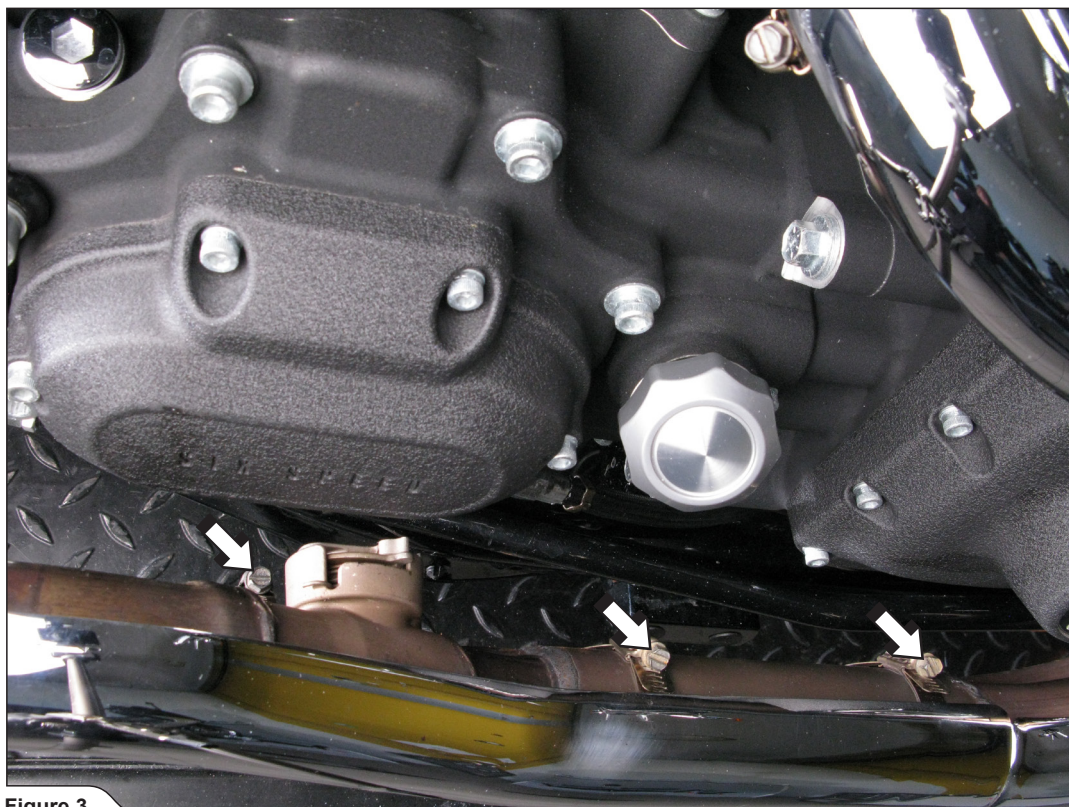

Figure 3
4. Loosen the marked heat shields' tape clamps (Figure 3).